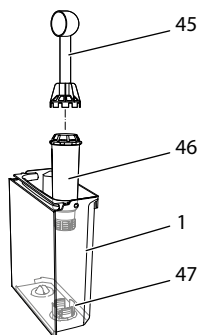

Fig. 25: Screwing/Unscrewing the water filter
- Remove the water filter when the appliance requests you to do so (see Fig. 25 *Screwing/Unscrewing the water filter* on page 96).